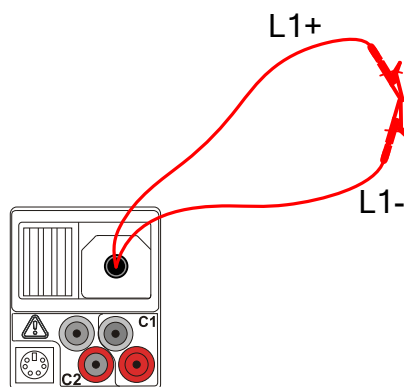

Figure 5.15: Shorted test leads
- **Connect** test cable to the instrument and short the L1+ and L1- test leads together (see Figure 5.15).